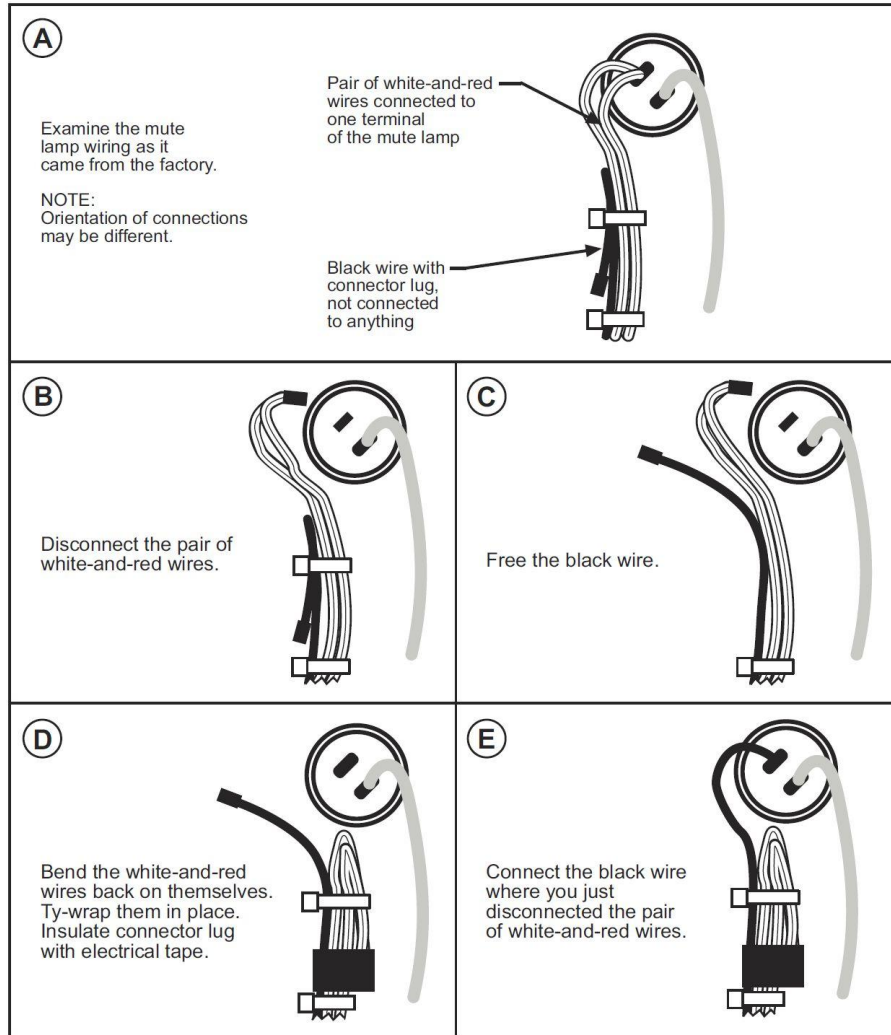

Figure 2-7. Wiring Steps to Modify Operator Station for WPC APEX
- If your mute lamp wiring looks like panel “E” in Figure 2-7 (i.e., the black wire is connected, the red-and-white wire not connected), the wiring is correct.
- If your mute lamp wiring looks like panel “A,” follow steps A through E in Figure 2-7 to disconnect the white-and-red wires and connect the black wire.